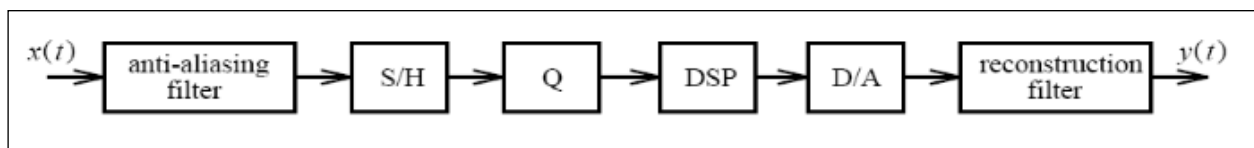

Figure 2. A block diagram of a practical DSP system
Error! Reference source not found. shows a block diagram of a simple lookup table signal generator, while Figure 2 shows a typical digital signal processing (DSP) system. On the Arduino Due, the ADC has no low pass (anti-aliasing) filter, however additional 10 kHz lowpass filters can be inserted at input and output. The Due codec is implemented as separate analogue to digital (A2D) and digital to analogue (D2A) converters, these being represented by the sample and hold (S/H) plus quantiser (Q) and D/A blocks in Figure 2 respectively. Finally, the DSP block in Figure 2 is where the equations for implementing the desired digital filters are performed.